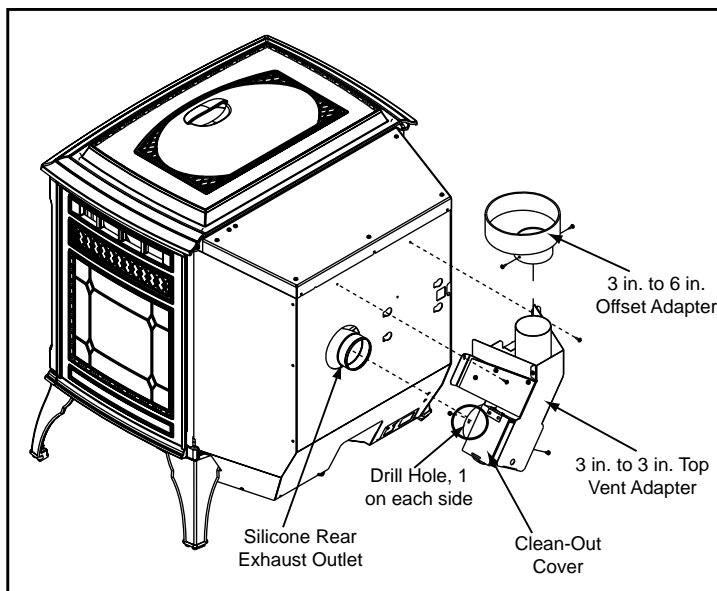

Figure 19.1
1. Put a layer of high temperature silicone on the 3 inch (76mm) exhaust outlet. **Figure 19.1.**
2. Slide the top vent adapter onto the rear exhaust outlet and adjust the assembly to a vertical position until the top of the flue outlet is centered and is in a level position. **Figure 19.1.**